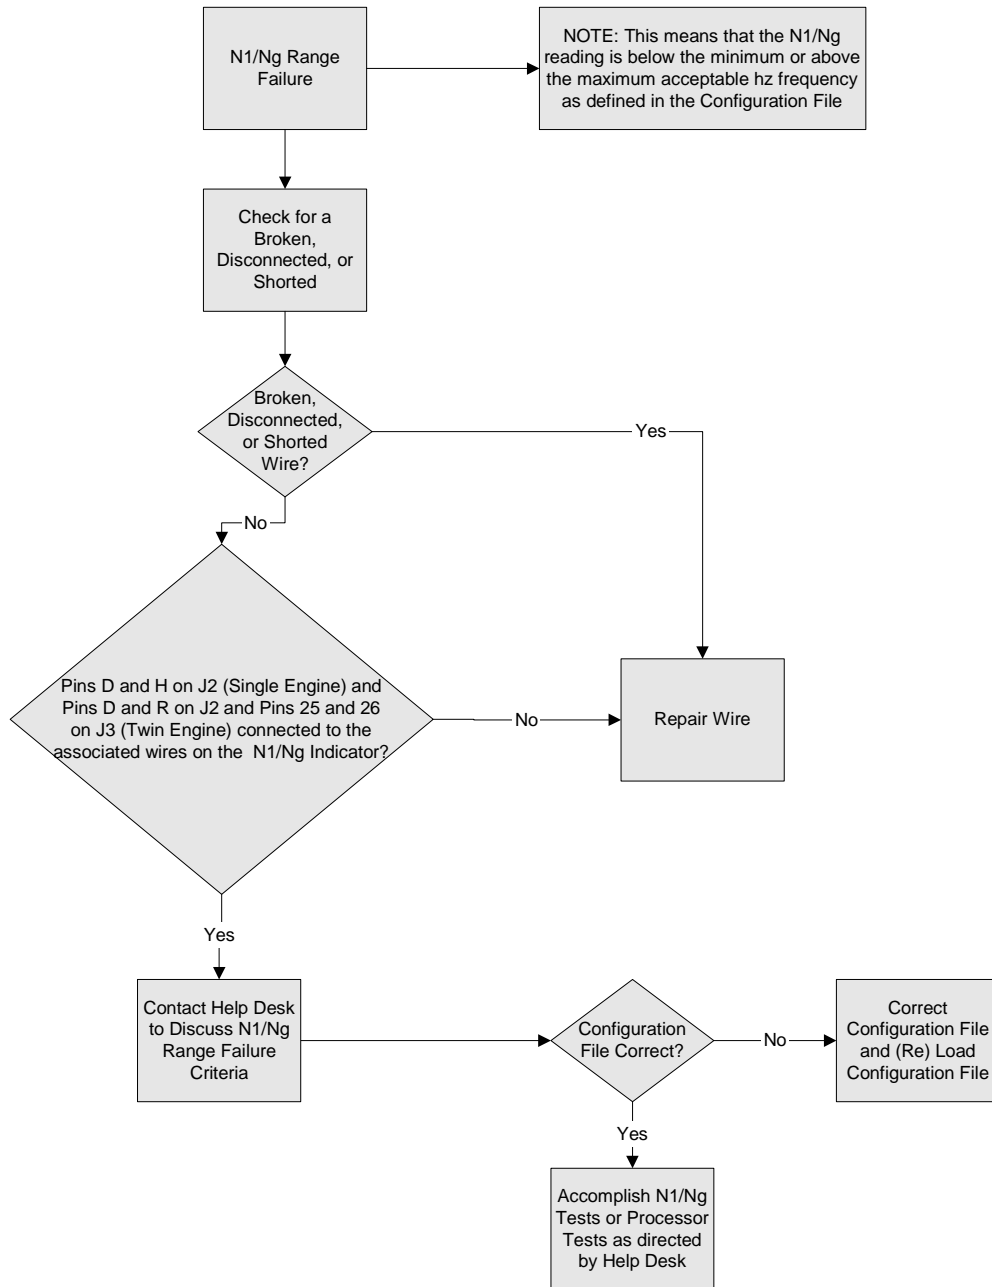

Figure 32: N1 (Ng) Range Failure Troubleshooting
- b. Range Failure – Refer to Figure 32